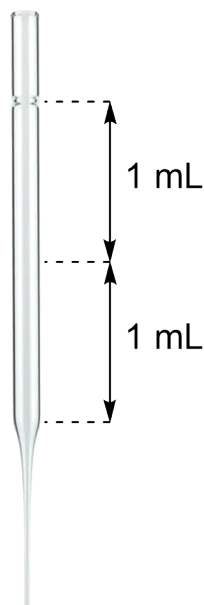

Figure 2: Pasteur pipette with approximate volume indications (scale 1:2)
- With the flask still in the ice-water bath, slowly **add** NaHSO₃ solution (aq, 40 %) (ca. 5 mL from the vial "NaHSO₃ (aq)"; 1 mL corresponds to ½ Pasteur pipette, see Figure 2) with a Pasteur pipette. **Keep** stirring. A white precipitate (product A) will form.